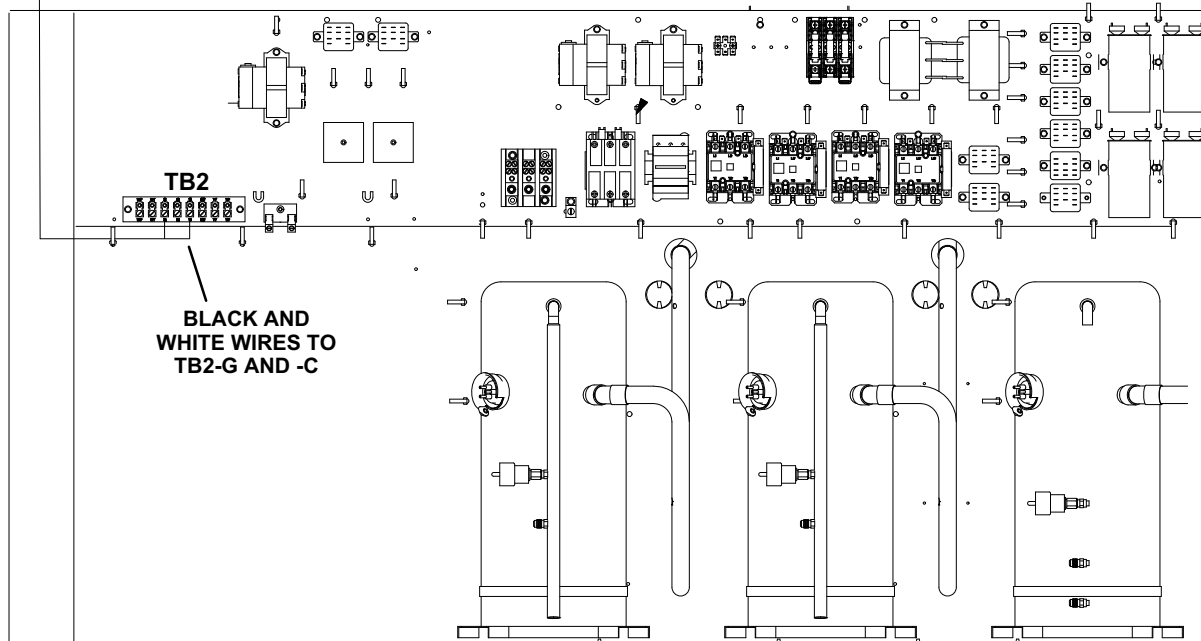

FIGURE 12
- 3- Strip and connect the cut wires to TB1 terminals G and C. See figure 12.